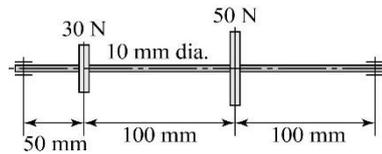

Fig. 13
14. Find the lowest critical speed for the steel shaft shown in Fig. 13.